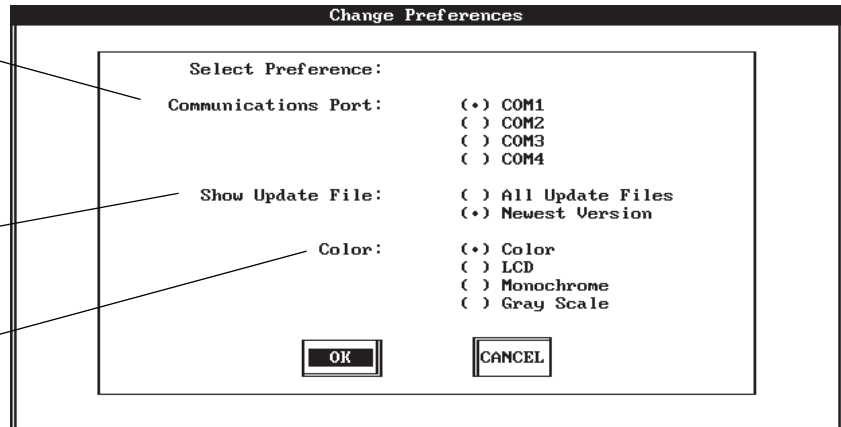

Figure 3-3 Preferences Window
FLASH UPDATE has a set of factory settings that appear in Figure 3-3. Change them when your computer requires different settings.
2. Select Preferences from the Options menu. The notes in Figure 3-3 explain the selections in the window. When you have selected your preferences, select OK.